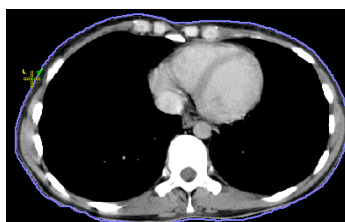

Figure 285 – Defining the left point of the bolus
- Define the leftmost point of the bolus by clicking the contour. The cursor marked as **L** will also be displayed with a green tick when it reaches the contour line of the currently selected ROI (see Figure 285).